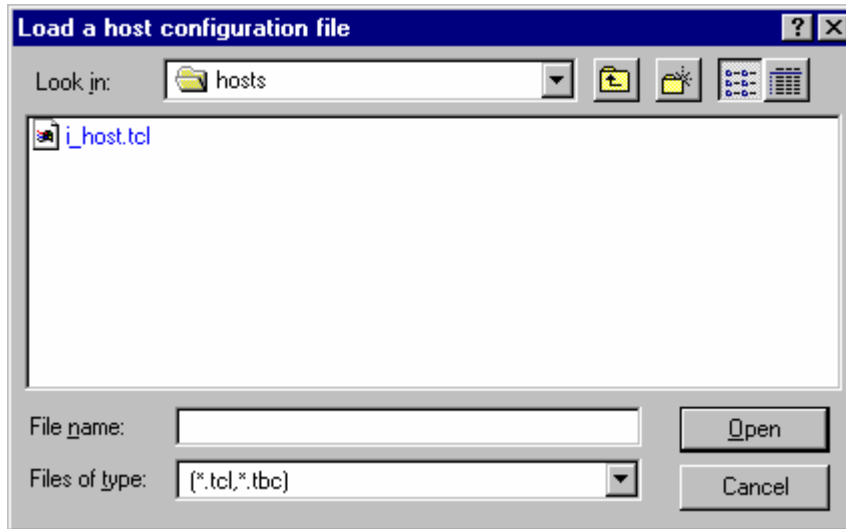

Figure 5-16. Load Host Configuration Dialog Box
1. From the **F**ile drop-down menu, select **L**oad **P**latform Config... Except in name, the **L**oad **P**latform Config... dialog box is identical to the **L**oad **H**ost Config... dialog box shown in Figure 5-16.
1. From the **File** drop-down menu, select **Load Target Config...** Except in name, the **Load Platform Config...** dialog box is identical to the **Load Host Config...** dialog box shown in Figure 5-16.
1. From the **F**ile drop-down menu, select the **L**oad **U**ser Config... option. Except in name, the **L**oad **P**latform Config... dialog box is identical to the **L**oad **H**ost Config... dialog box shown in Figure 5-16.